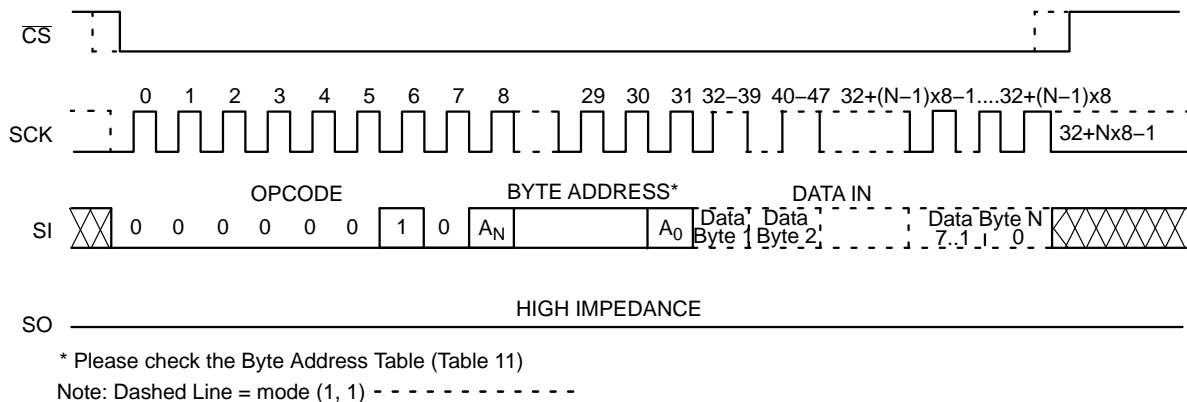

Figure 6. Page WRITE Timing
After sending the first data byte to the NV25M01, the host may continue sending data, up to a total of 256 bytes, according to timing shown in Figure 6. After each data byte, the lower order address bits are automatically incremented, while the higher order address bits (page address) remain unchanged. If during this process the end of page is exceeded, then loading will "roll over" to the first byte in the
The 256-byte Identification Page (IP) can be written with user data using the same Write commands sequences that are used for writing to the main memory array (Figure 6). **The IPL Status Register bit must be set (IPL = 1), before attempting to write to the IP.**